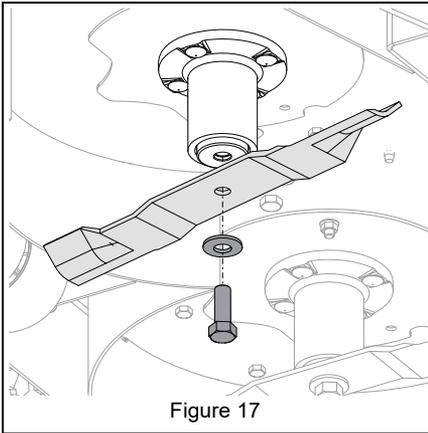

Figure 17
3. Remove hardware securing blades to spindles and remove blades. Retain all hardware for reinstallation. See Figure 17.
See Figure 17.